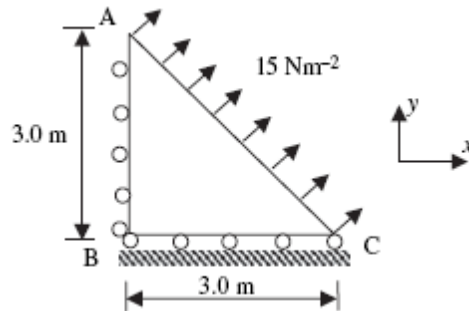

Figure P8.9
9. Consider a one-element triangular mesh shown in **Figure P8.9**. The boundary conditions are as follows. The edge BC is constrained in y and traction free in x, whereas the edge AB is constrained in x and traction free in y. The edge AC is subject to traction normal to the edge. Assume Young's modulus $E = 3 \times 10^{11} \text{ Pa}$ and Poisson's ratio $\nu = 0.3$.